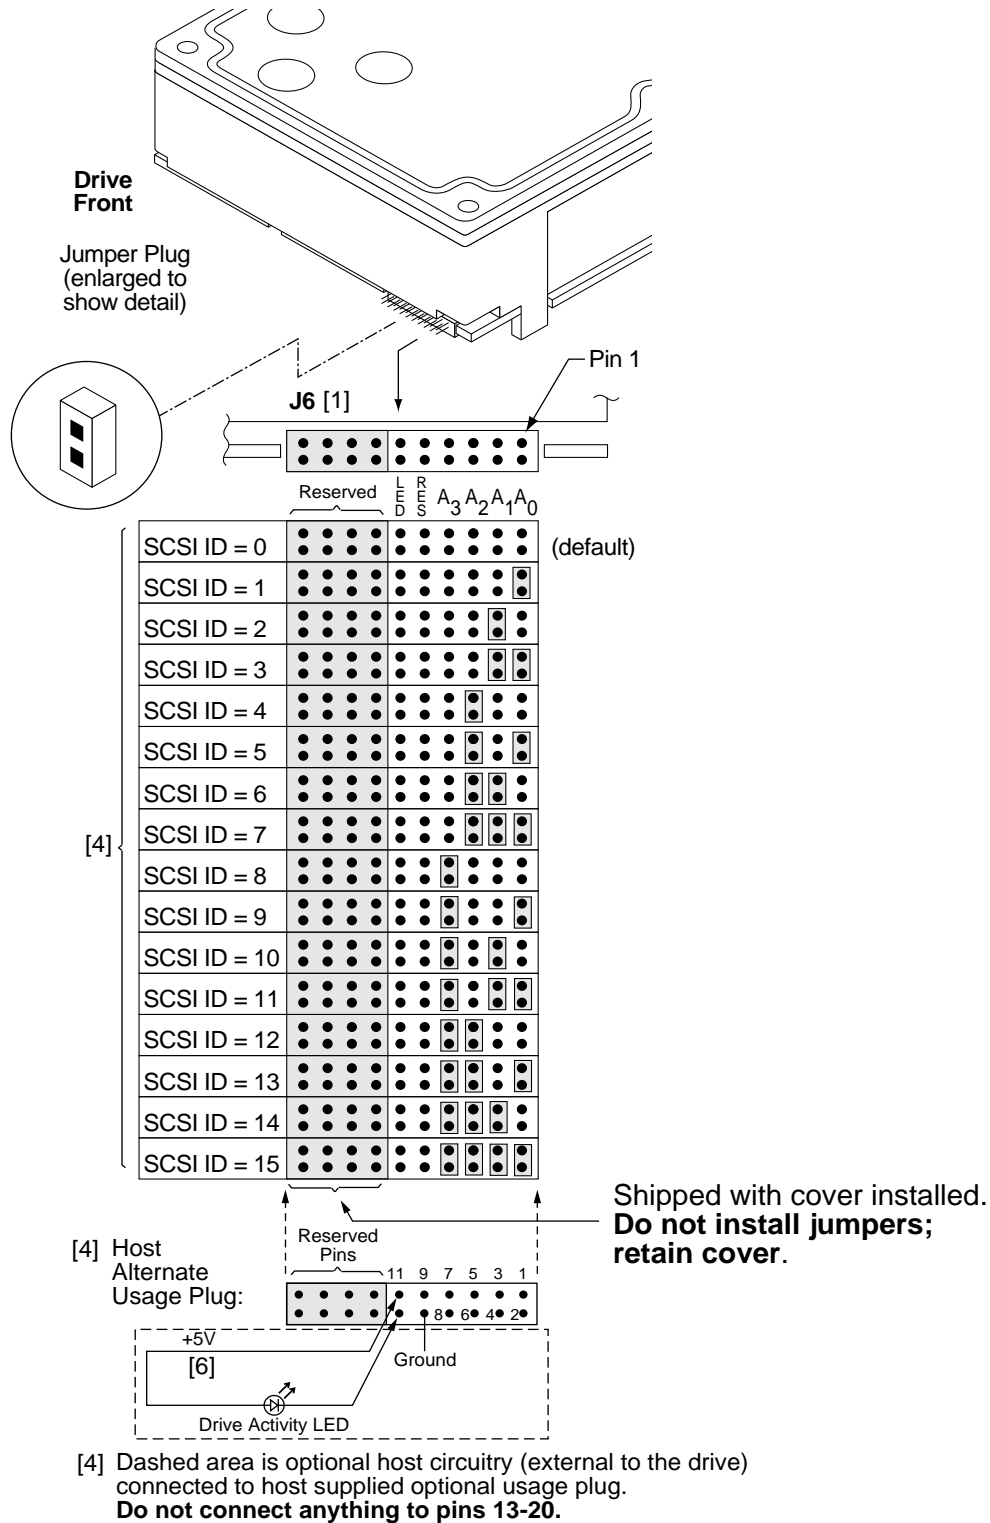
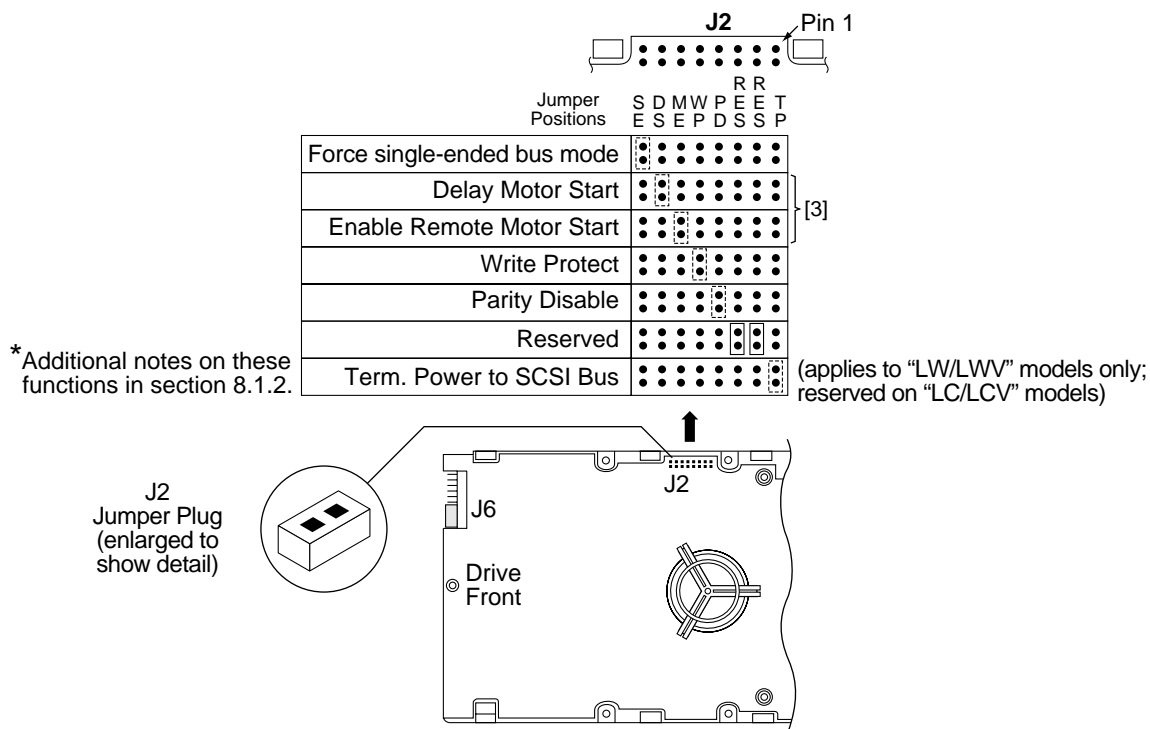

Figure 12. J6 jumper header
Figure 14. J2 option select header
For option jumper locations and definitions refer to Figures 12, 13, and 14. Drive default mode parameters are not normally needed for installation. Refer to Section 9.3.2 for default mode parameters if they are needed.
Figures 12 and 13 show views of the drive ID select jumper connectors. Figure 14 shows the option select jumper connector for all models. Figure 12 shows the drive's J5-auxiliary jumper connector. Both J5-auxiliary and J6 have pins for selecting drive ID and for connecting the remote LED cable. Only one or the other should be used, although using both at the same time would not damage the drive. The notes following the figures describe the functions of the various jumper positions on the connectors J2, J5-Auxiliary and J6. Suggested part number for the jumpers used on J2 is Molex 52747-0211 (Seagate part number 77679052). A bag with jumper plugs is shipped with the standard OEM drives.
8.1.1 Notes for Figures 12, 13, and 14.